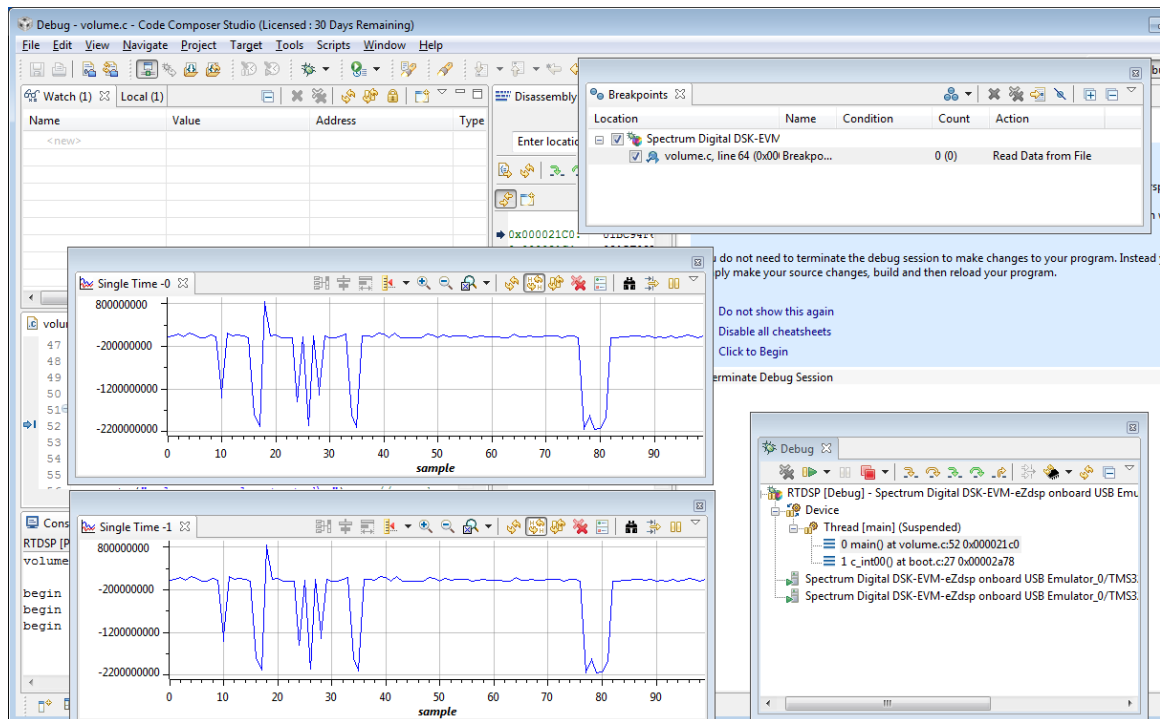

Figure 21: Displaying Graphs
- Click **OK** to display the Output graph window. Right-click on the tab of the Output graph window and choose **Detached** from the pop-up menu. Place the input window (titled **Single Time-0**) above the Output window (titled **Single Time -1**). Your windows should look something like figure 21: